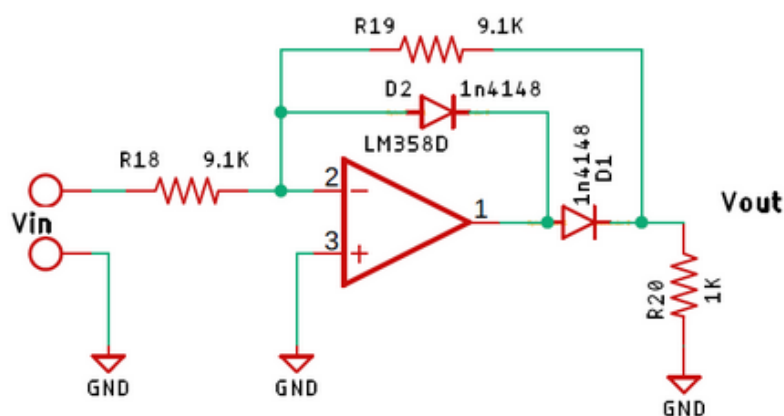
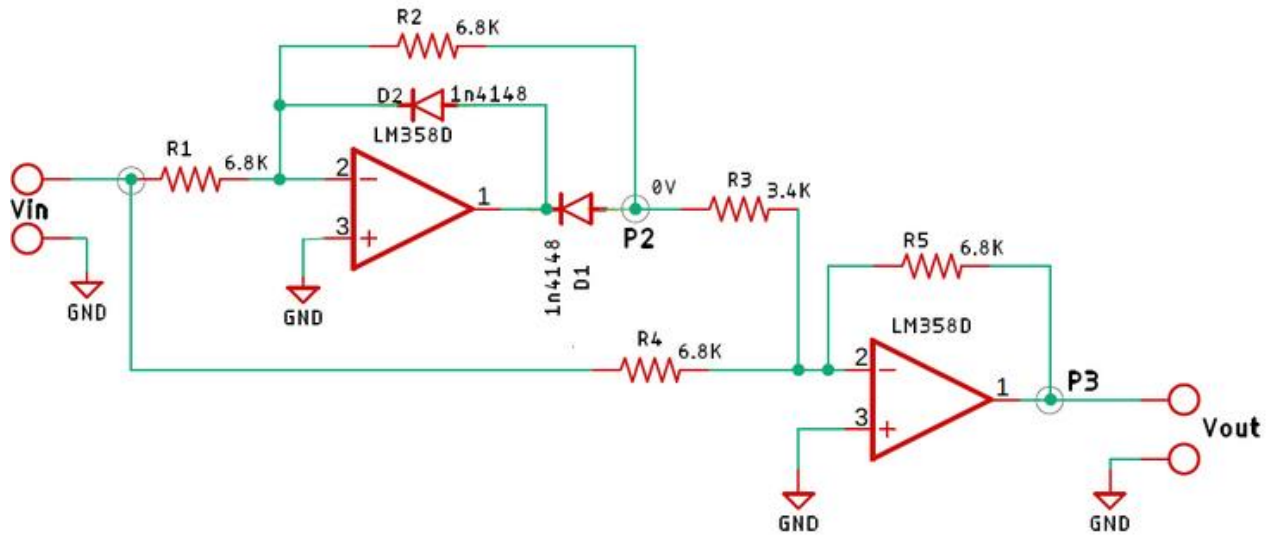

Fig 1. Precision Half Wave Rectifier circuit
Fig 2. Precision Full Wave Rectifier circuit
1. Connections are made as per the circuit diagram shown in Fig. 1 and Fig. 2